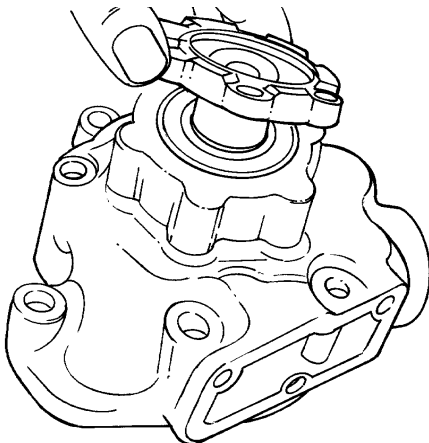

Figure 94 - Sealing Ring Retainer - Installation
- g. Install the sealing ring retainer with seal (Fig 94) and secure with the six M6 bolts. Torque the bolts to 9 Nm.